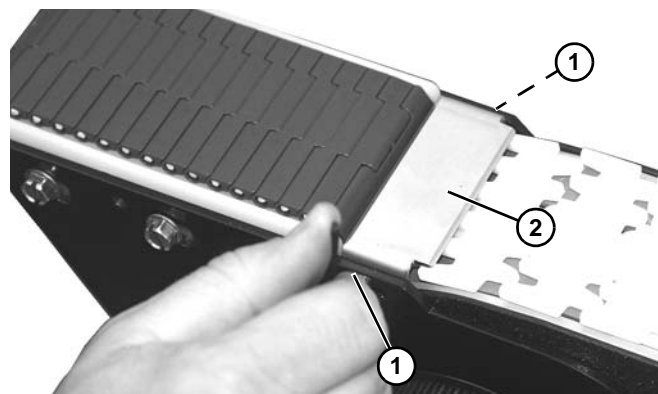

Figure 160
6. Remove two socket head screws (**Figure 160, item 1**) and pinch guard (**Figure 160, item 2**).